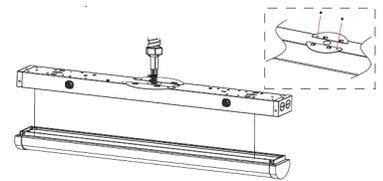

Fig. 3
3. Run the fixture power wires through the center hole of the round J-box adapter. Slide and secure the round J-Box adapter on the center slots located on the back of the fixture. Note: J-Box adapter is used to cover the Junction Box (Fig. 3).